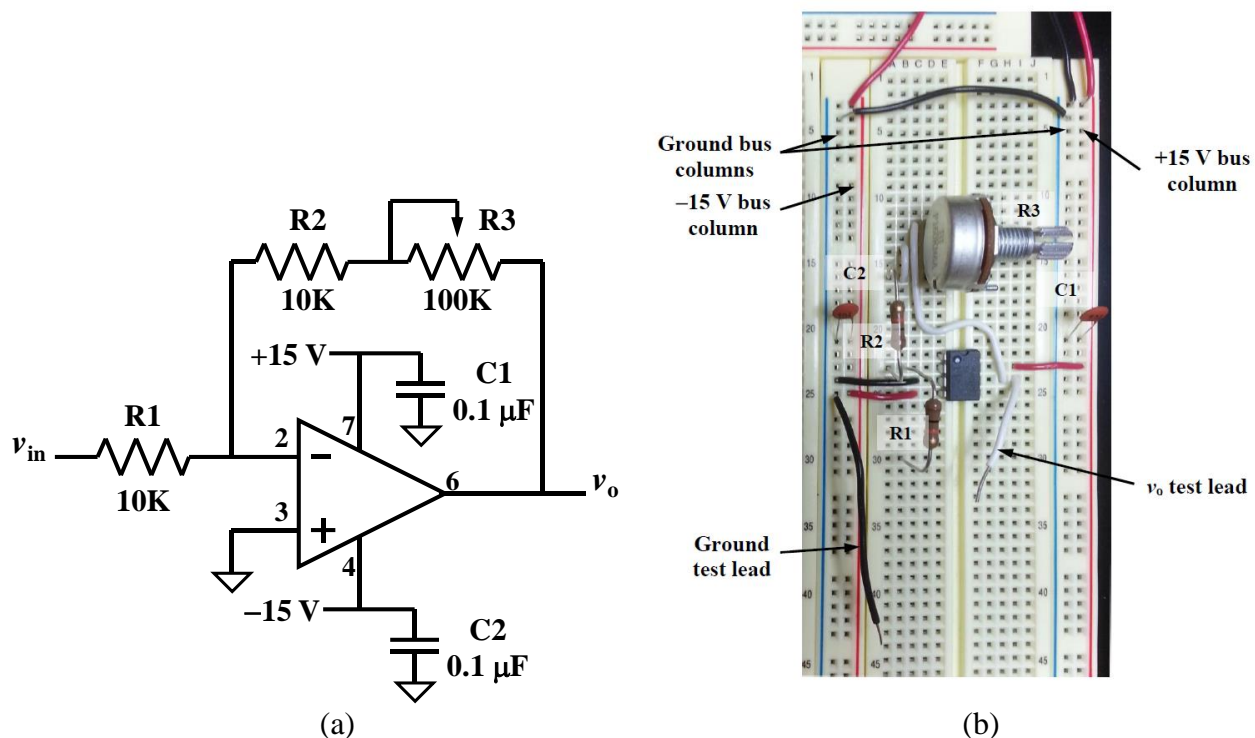

Fig. 2. First op-amp circuit (a) schematic and (b) example breadboard layout.
1. For the five amplifier circuits in Figs. 2, 3, 4, 5, and 6:
- For the first and second circuits (Figs. 2 and 3), the feedback resistor is the series combination of R_2 and R_3 . Use both of these resistor symbols in your expression.
- Record these results in Table 1 for circuits 1 through 4 (Figs. 2 through 5) and in Table 2 for the circuit 5 (Fig. 6).